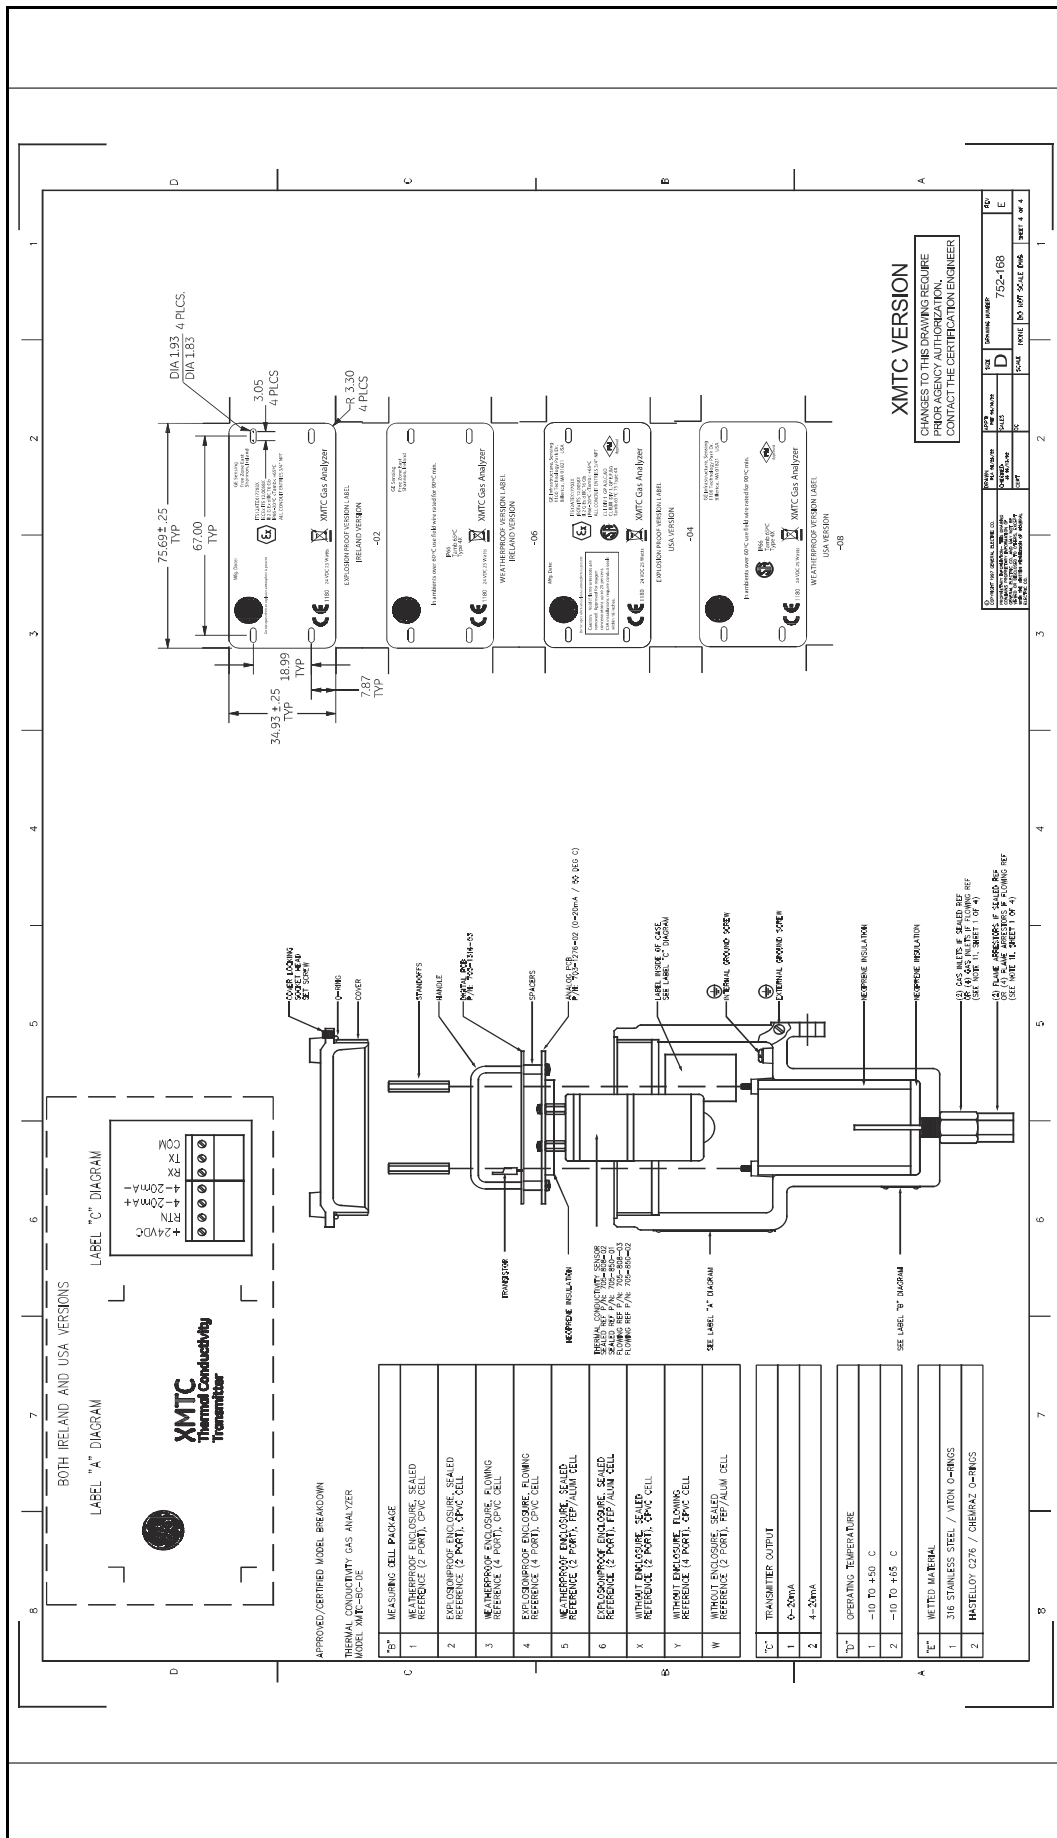

Figure 62: Certification drawing (ref. 752-168, Rev. E, SH4)
- *Figure 62: Certification drawing (ref. 752-168, Rev. E, SH4) on page 46*